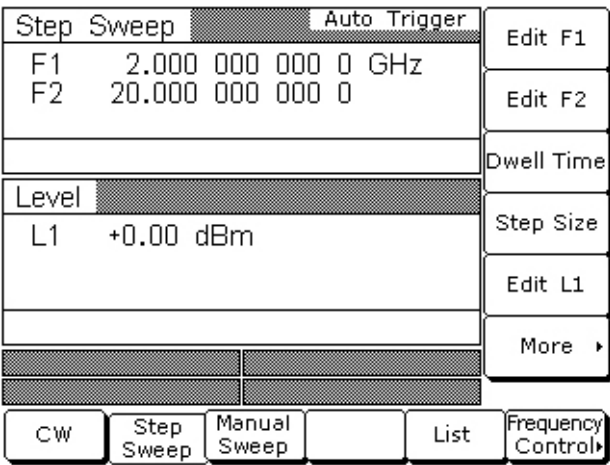

Figure 5-8. Analog Sweep Menu
- Press **Analog Sweep** to place the MG369xC in the analog sweep frequency mode and display the Analog Sweep menu (Figure 5-8).